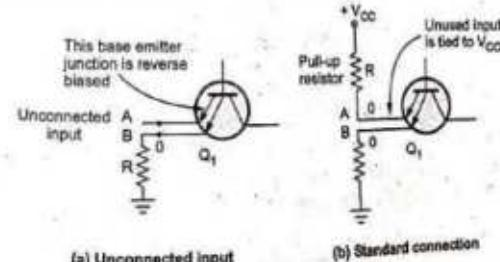

Fig. 3.3.13.
- If any input of TTL gate is left open or unconnected, then the corresponding base emitter junction of the input transistor  $Q_1$  is reverse biased. See Fig. 3.3.13 (a). Therefore, the open or unconnected input behaves exactly same way as if a logic 1 is applied to that input. Thus, in TTL ICs all the unconnected inputs are treated as logic 1. However, it is recommended that the unused inputs should be either connected to some used input or tied to  $V_{CC}$  through pull-up resistor, as shown in the Fig. 3.3.13 (b).